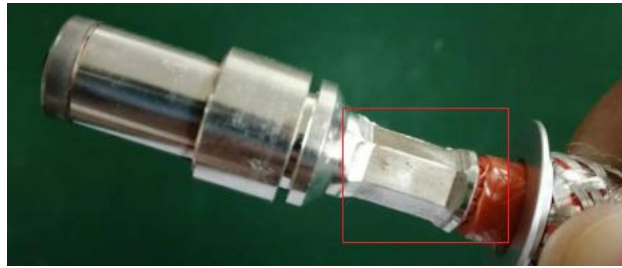

Figure 6
3.1.2. According to the size requirements of Figure 5, the crimping terminal is pressed, and the crimping section is a regular hexagon. The size after crimping meets the requirements of the following table. After crimping, the double-wall heat shrinkable tube ($25 \pm 2\text{mm}$ long) is sleeved and heat shrunk at the position shown in Figure 6.